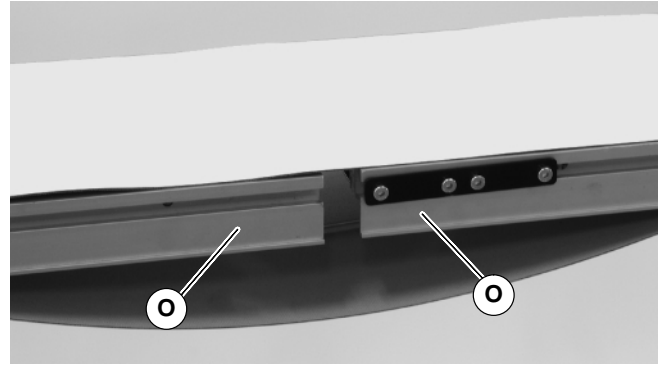

Figure 6
3. Roll out conveyor belt and place conveyor frame sections (O of Figure 6) into belt loop.